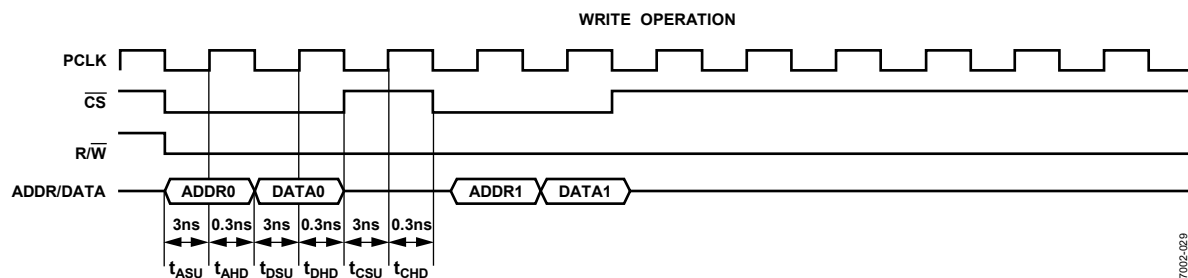

Figure 34. Parallel Port Write Timing
5. The IO_UPDATE is not shown in Figure 34. The IO_UPDATE transfers the contents from a write sequence to the active register. See the Register Update (I/O Update) section.
Write operations work in a similar fashion as read operations except that the user drives the bus for both PCLK cycles. A typical write access follows the steps shown in Figure 34.